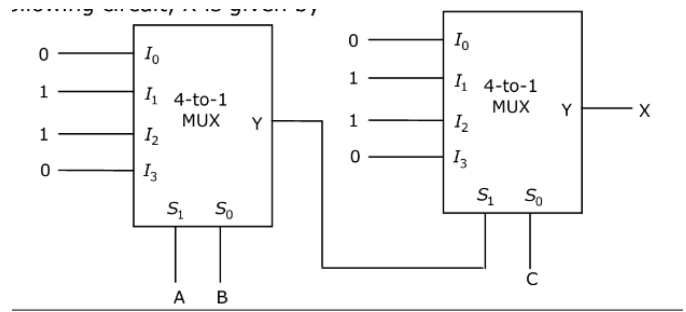

Fig. 3.6
16. Find X in the following circuit in Fig. 3.6 (GATE EC 2007)